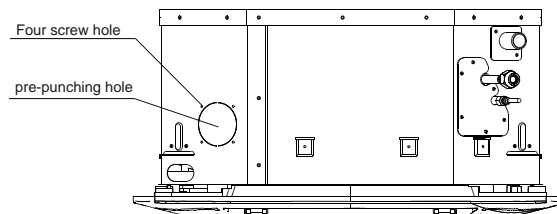

Fig.27
- a. Using a tool to knock off the pre-punching hole. (Refer to Fig.27)
- b. Four screw hole reserved for installation. (Refer to Fig.27 )